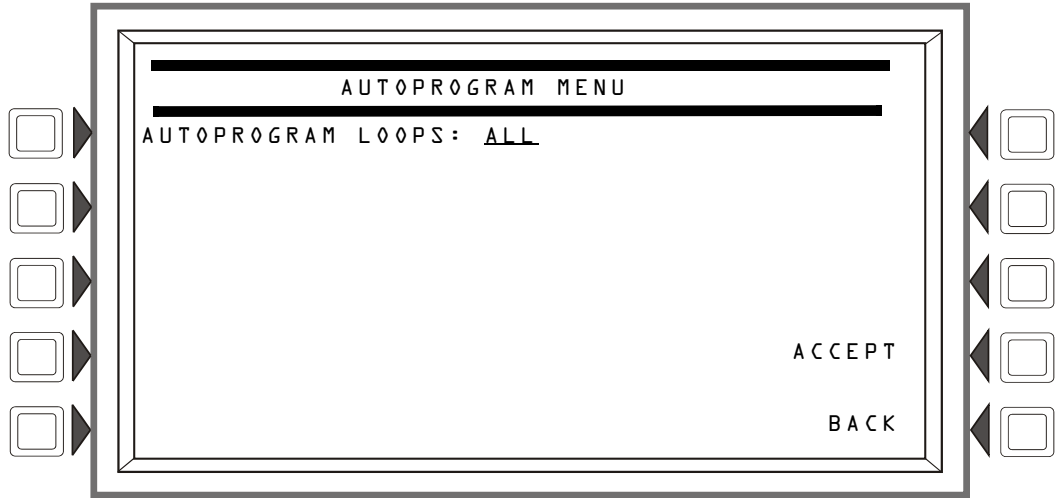

Figure 3.59 Autoprogram Menu Screen
3. Press the **AUTOPROGRAM L00PS** soft key and enter the desired SLCs (loops **1+2** in this example) in the Autoprogram Menu screen (Figure 3.59)